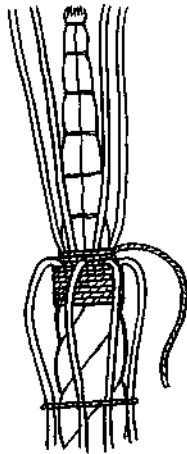

Fig. 100
9. Take three more turns of twine and hitch (Fig. 100).